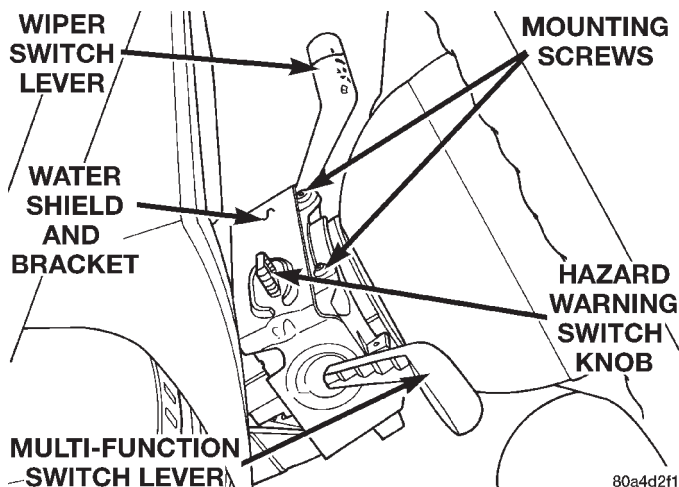

Fig. 6 Water Shield Upper Screws Remove/Install
(10) Remove the two screws that secure the switch water shield and bracket to the top of the steering column (Fig. 6).